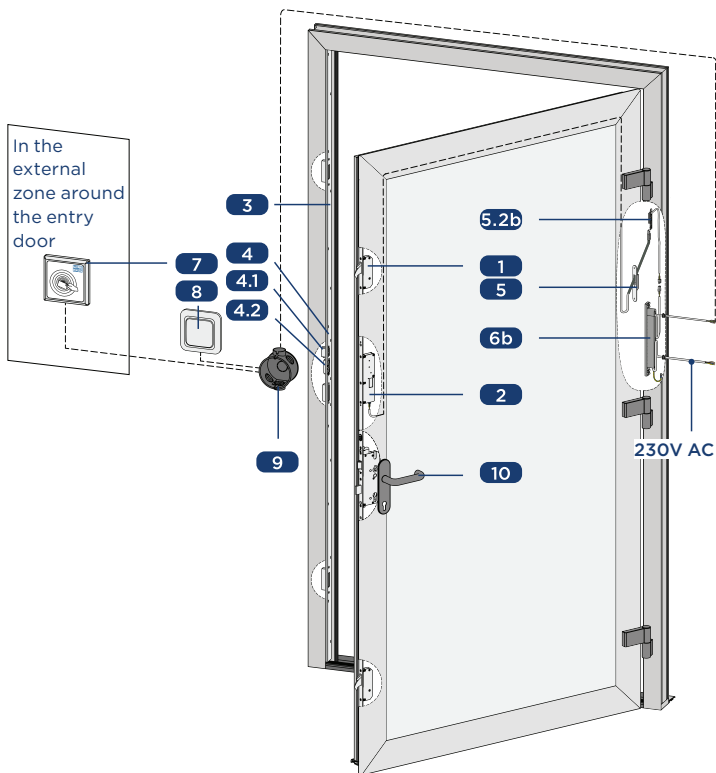

Figure 2-2: blueMatic EAV with accessories and frame power supply
5.2b	Figure 2-2: T-KÜ-T1 RT KABEL 0,6M RNT with plug connection to the frame power supply 24V DC (optional)
6b	Figure 2-2: Frame power supply T-NETZTEILRAHM.12V DC 1,5A (2A / 2S) (optional) including cable for connection of ex- ternal access controls, e.g. intercom, potential-free contact